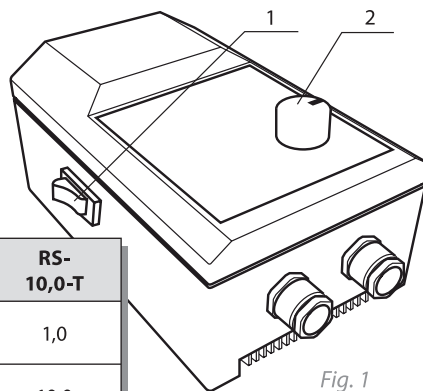
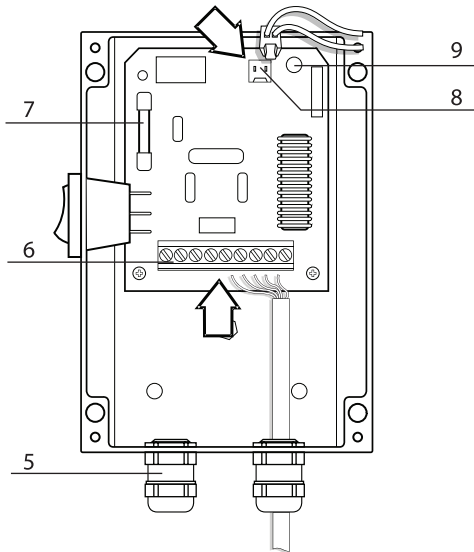
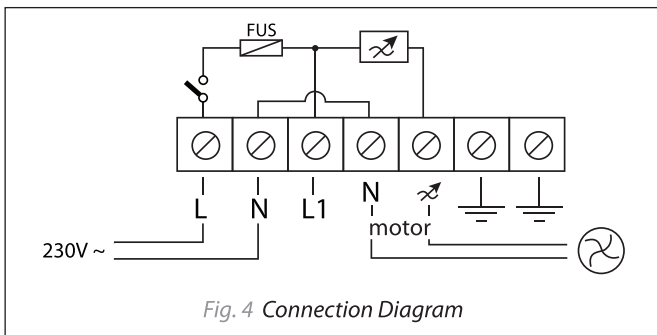

Fig. 1
Fig.3
Fig. 4 Connection Diagram
RS-.-T series controllers (hereinafter “Device”) are used in ventilation and air conditioning systems to control the output of single-phase fans by means of smooth variation of the voltage supplied to the motor. The device is controlled by means of the control knob 2 (see Fig.1) on the front panel.
The controller has the On/Off button 1 (see Fig.1).
2 (see Fig. 1) in the range selected during setup. The minimum power output from 25 to 100% is set by means of trimming potentiometer **9** (see Fig. 3) mounted **inside** the controller. Fuse **7** (see Fig. 3) prevents the device and the connected fan from excessive current consumption.
- To facilitate installation unplug connector **8** (see Fig. 3);
- Complete the electrical connections according to the wiring diagram (see Fig.4). The external wires are connected to the device by means of bolt-and-nut terminals **6** (see Fig.3). The cables are routed into the unit through sealed lead-ins **4** (see Fig.3). The external lead-in (220V/50Hz) must be equipped with an automatic switch built into the stationary wiring.
- Plug in connector **8** and set speed selector handle **2** (see Fig.1) to the minimum value (counter-clockwise). Then use potentiometer **9** (see Fig. 3) to set the minimum fan speed as required.